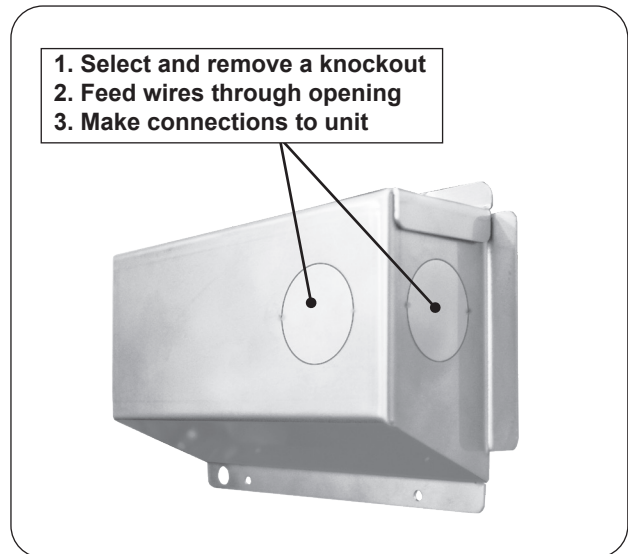

Fig. 26-1 Junction box knockouts
2. Remove the junction box located on the rear of the unit. Select and remove a knockout from the junction box that will best suit your electrical setup. Route the wiring through the selected knockout opening. See Fig. 26-1.